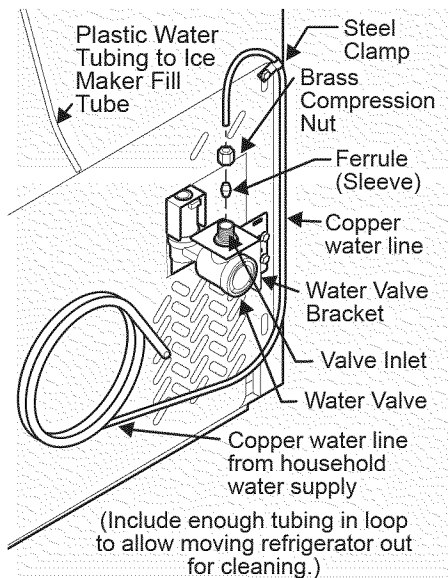

Figure 1
- 4 **If you use copper tubing** - Slide brass compression nut, then ferrule (sleeve) onto water supply line. Push water supply line into water valve inlet as far as it will go (1/4 inch/6.4 mm). Slide ferrule (sleeve) into valve inlet and finger tighten compression nut onto valve. Tighten another half turn with a wrench; DO NOT over tighten. See Figure 1.